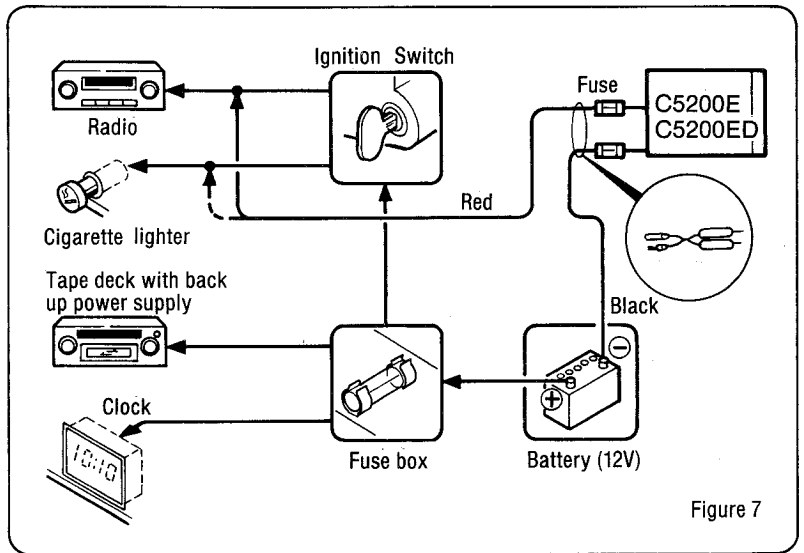

Figure 7
- ③ To switch with ignition, connect as Figure 7 and 8.